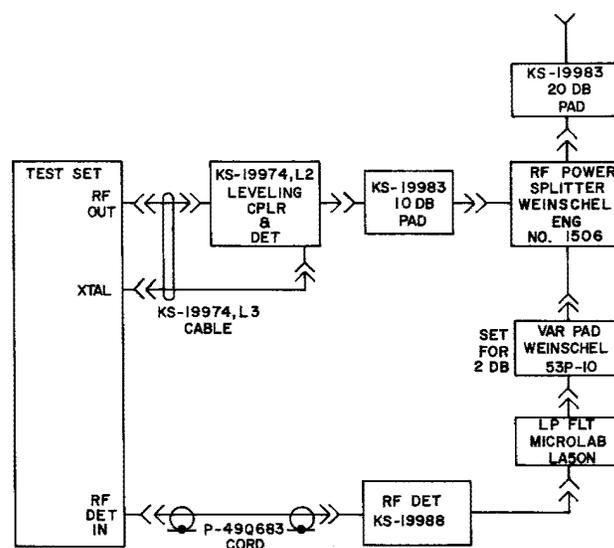

Fig. 3 - RF Return Loss Setup
- 8.02 Make connections on the test set per Fig. 3.